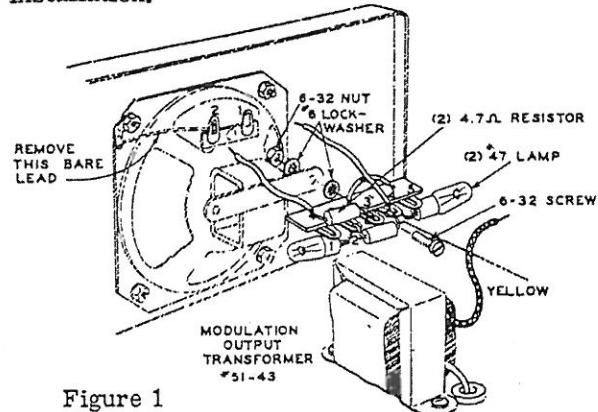

Figure 1
Refer to Figure 1 and assemble the terminal strip and components, as a separate unit before installation.
- () Now mount the terminal strip component assembly on the speaker frame as shown in Figure 1. Tighten securely, to assure a good ground connection.